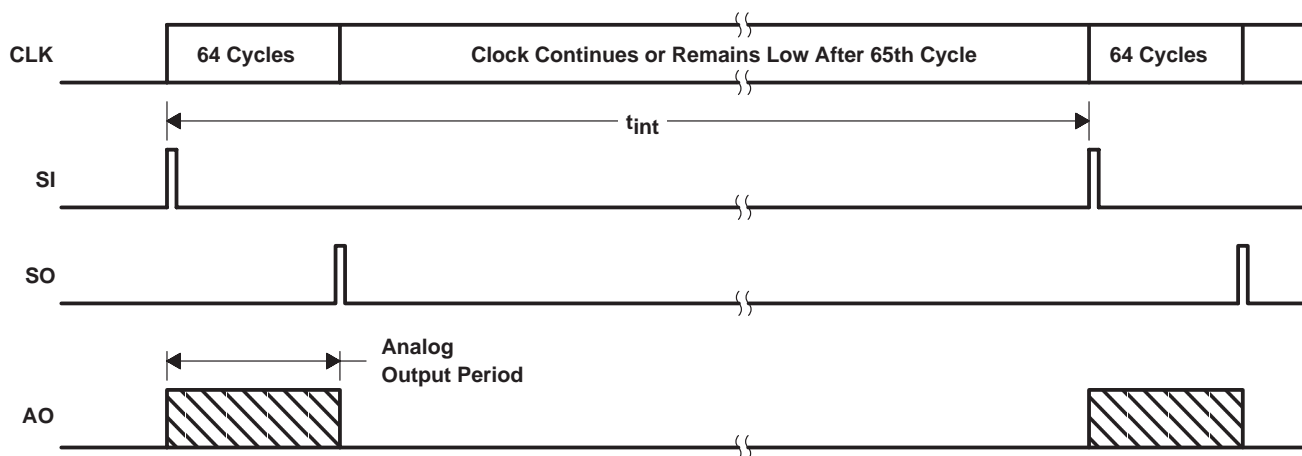

Figure 1. Timing Waveforms
Operation of the 64 × 1 array sensor consists of two time periods: an integration period during which charge is accumulated in the pixels and an output period during which signals are transferred to the output. The integration period is defined by the interval between serial-input (SI) pulses and includes the output period (see Figure 1). The required length of the integration period depends upon the amount of incident light and the desired output signal level.
The output period is initiated by the presence of the SI pulse coincident with a rising edge of the clock (Figures 1 and 2). The output voltage corresponds to the level of the first pixel after settling time (t_s) and remains constant for a valid time (t_v). A voltage corresponding to each succeeding pixel is available at each rising edge of the clock. The output period ends on the rising edge of the 65th clock cycle, at which time the output assumes a high-impedance state. The 65th clock cycle terminates the output of the last pixel and clears the shift register in preparation for the next SI pulse. To achieve minimum integration time, the SI pulse may be present on the 66th rising edge of the clock to immediately reinstate the output phase. Once the output period is initiated by an SI pulse, the clock must be allowed to complete 65 positive-going transitions in order to reset the internal logic to a known state.
| Sensor integration time, t_{int} (see Figures 1 and 2) | | 5 | | ms |